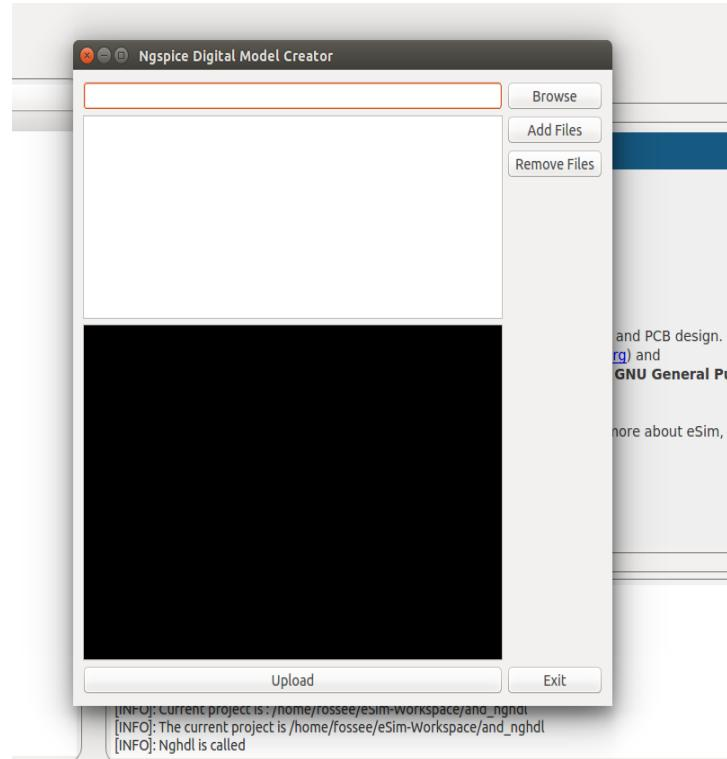

Figure 10.3: NGHDL interface
1. Click on NGHDL button on left side pane of main window, the Ngspice Digital Model Creator window will appear as shown in Fig. 10.3